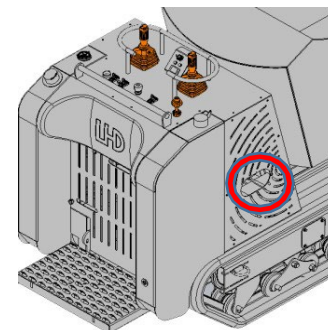

Fig 18
13. Auxiliary Tool Circuit (If Equipped) (*Fig 18*)